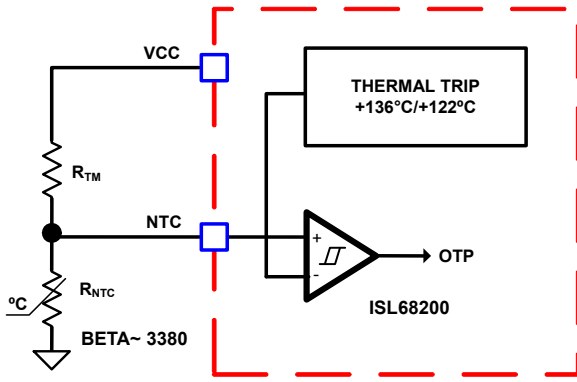
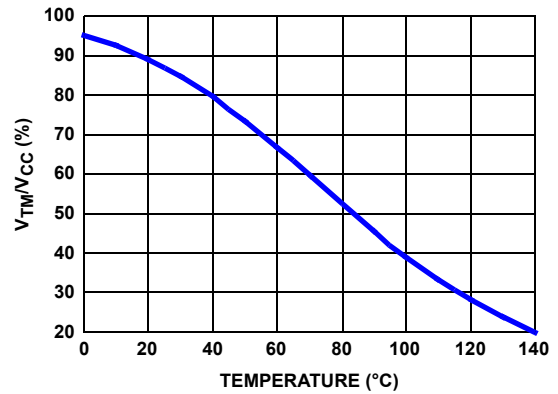

FIGURE 16. BLOCK DIAGRAM OF THERMAL MONITORING AND PROTECTION
FIGURE 18. THE RATIO OF TM VOLTAGE TO NTC TEMPERATURE WITH RECOMMENDED PART
The thermal monitoring function block diagram is shown in Figure 16 on page 18. Place one NTC resistor close to the respective power stage of the voltage regulator VR to sense the operational temperature. Pull-up resistors are needed to form the voltage dividers for the NTC pin. As the temperature of the power stage increases, the NTC resistance reduces, resulting in the reduced voltage at the NTC pin. Figure 18 on page 18 shows the TM voltage over the temperature for a typical design with a recommended 10k $\Omega$  NTC (P/N: NCP15XH103J03RC from Murata,  $\beta = 3380$ ) and 1.54k $\Omega$  resistor  $R_{TM}$ . It is recommended to use these resistors for accurate temperature compensation because the internal thermal digital code is based on these two components. If a different value is used, the temperature coefficient must be close to 3380 and  $R_{TM}$  must be scaled accordingly. For instance, if NTC = 20k $\Omega$  ( $\beta = 3380$ ), then  $R_{TM}$  should be  $20\text{k}\Omega/10\text{k}\Omega \cdot 1.54\text{k}\Omega = 3.08\text{k}\Omega$ .
to the NTC temperature of the practical design should be similar to that in Figure 18.
1. Properly choose the voltage divider for the NTC pin to match the NTC voltage vs temperature curve with the recommended curve in Figure 18 on page 18.
Figure 16 shows a comparator with hysteresis that compares the NTC pin voltage to the threshold set. When the NTC pin voltage is lower than 22.31% of VCC voltage (typically +136 °C), it triggers Over-Temperature Protection (OTP) and shuts down ISL68200 operation. When the NTC pin voltage is above 27.79% of VCC voltage (typically +122.4 °C), the ISL68200 resumes normal operation. When an OTP fault is declared, the controller forces the LGATE and UGATE gate-driver outputs low.